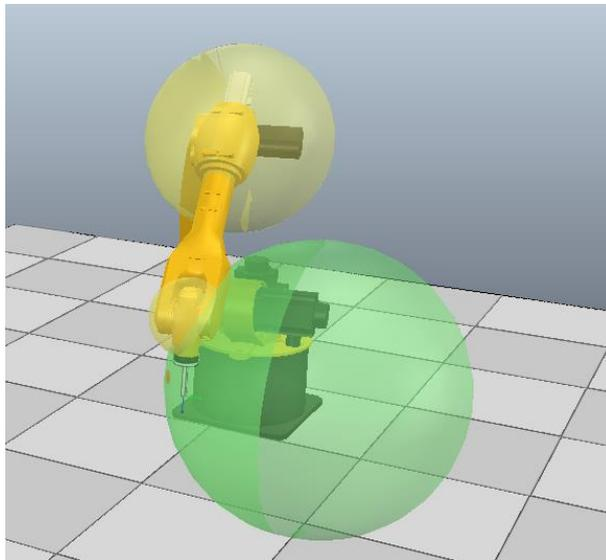

Figure 6-75 Robot' s "Tool Envelope" outside working zone
Step5.After clearing the warning message, power on and continue to control the robot to move outside the working zone (see Figure 6-75). When "Tool Envelope" boundary is detected to start out of the working zone, the warning message shown in Figure 6-77 will appear.